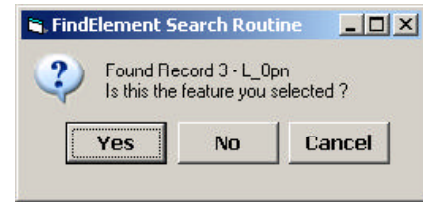

Figure 4
- 4 Click at the **OK** button to confirm the selection, and display the *Yes/No/Cancel* confirmation query box of Figure 4 regarding the selected feature, or click at the **Cancel** button to abort the command.
mation query box of Figure 4, or click at the **Cancel** button to abort the command.